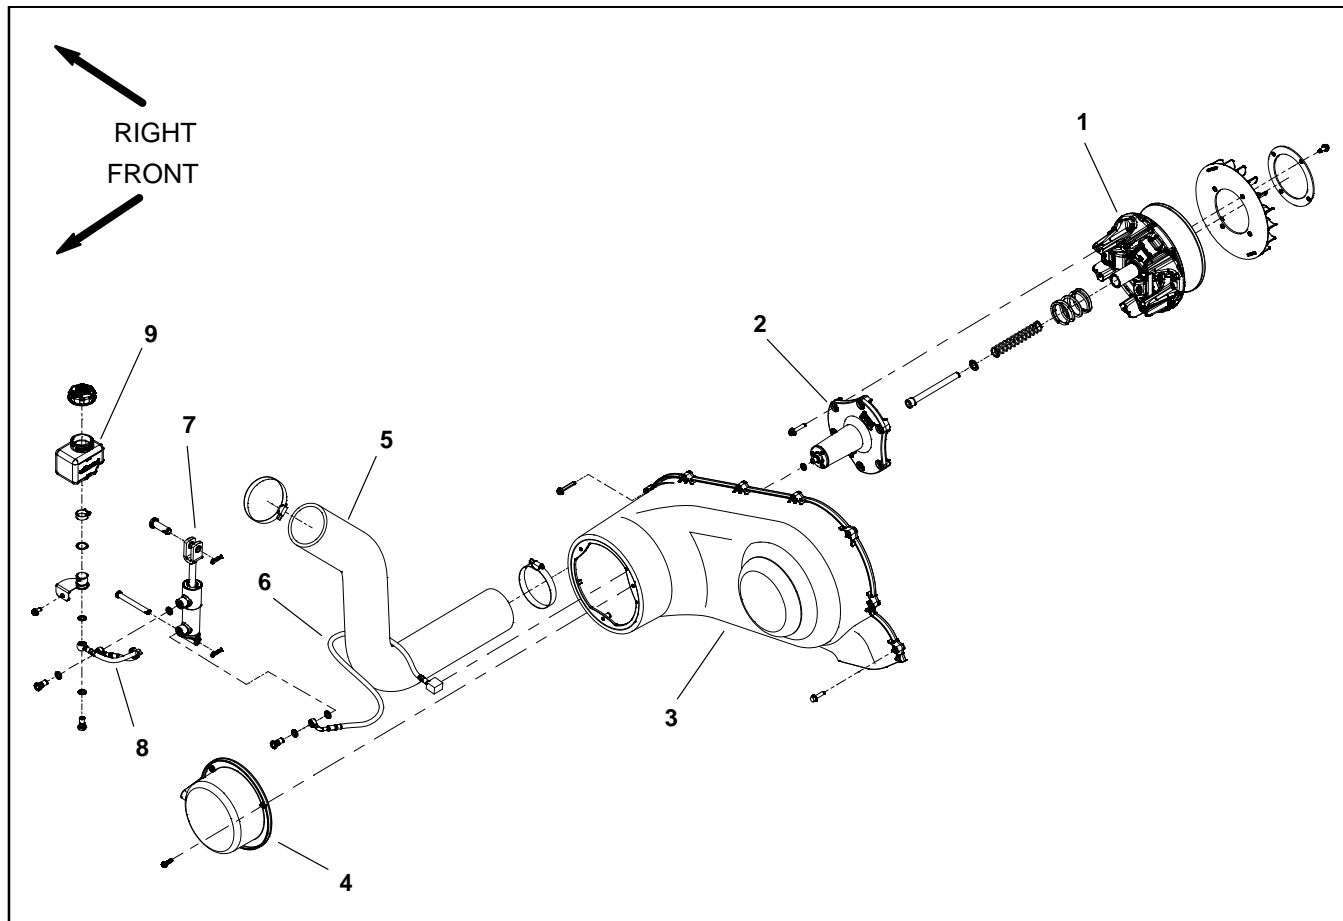

Figure 17
Disassembly (Fig. 17)
4. Remove speed control components as needed using Figures 17, 19 and 20 as guides. If hydraulic hoses are removed, discard banjo washers and replace during assembly.
NOTE: If speed limiter assembly (item 2 in Fig. 17) needs to be removed or disassembled, see Speed Limiter Assembly and Speed Limiter Cover Service in this section.
Assembly (Fig. 17)
1. Install all removed speed control components using Figures 17, 19 and 20 as guides.